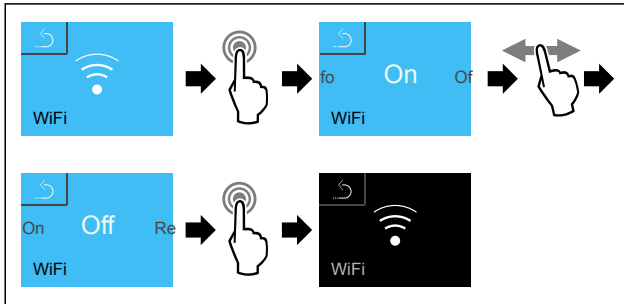

Fig. 97
- ▶ Complete the steps (see Fig. 97) .